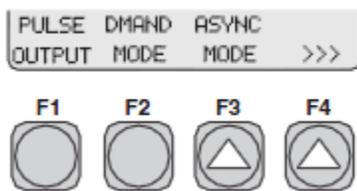

Fig 4
- Depress “F1” (PULSE OUTPUT). Figure 4